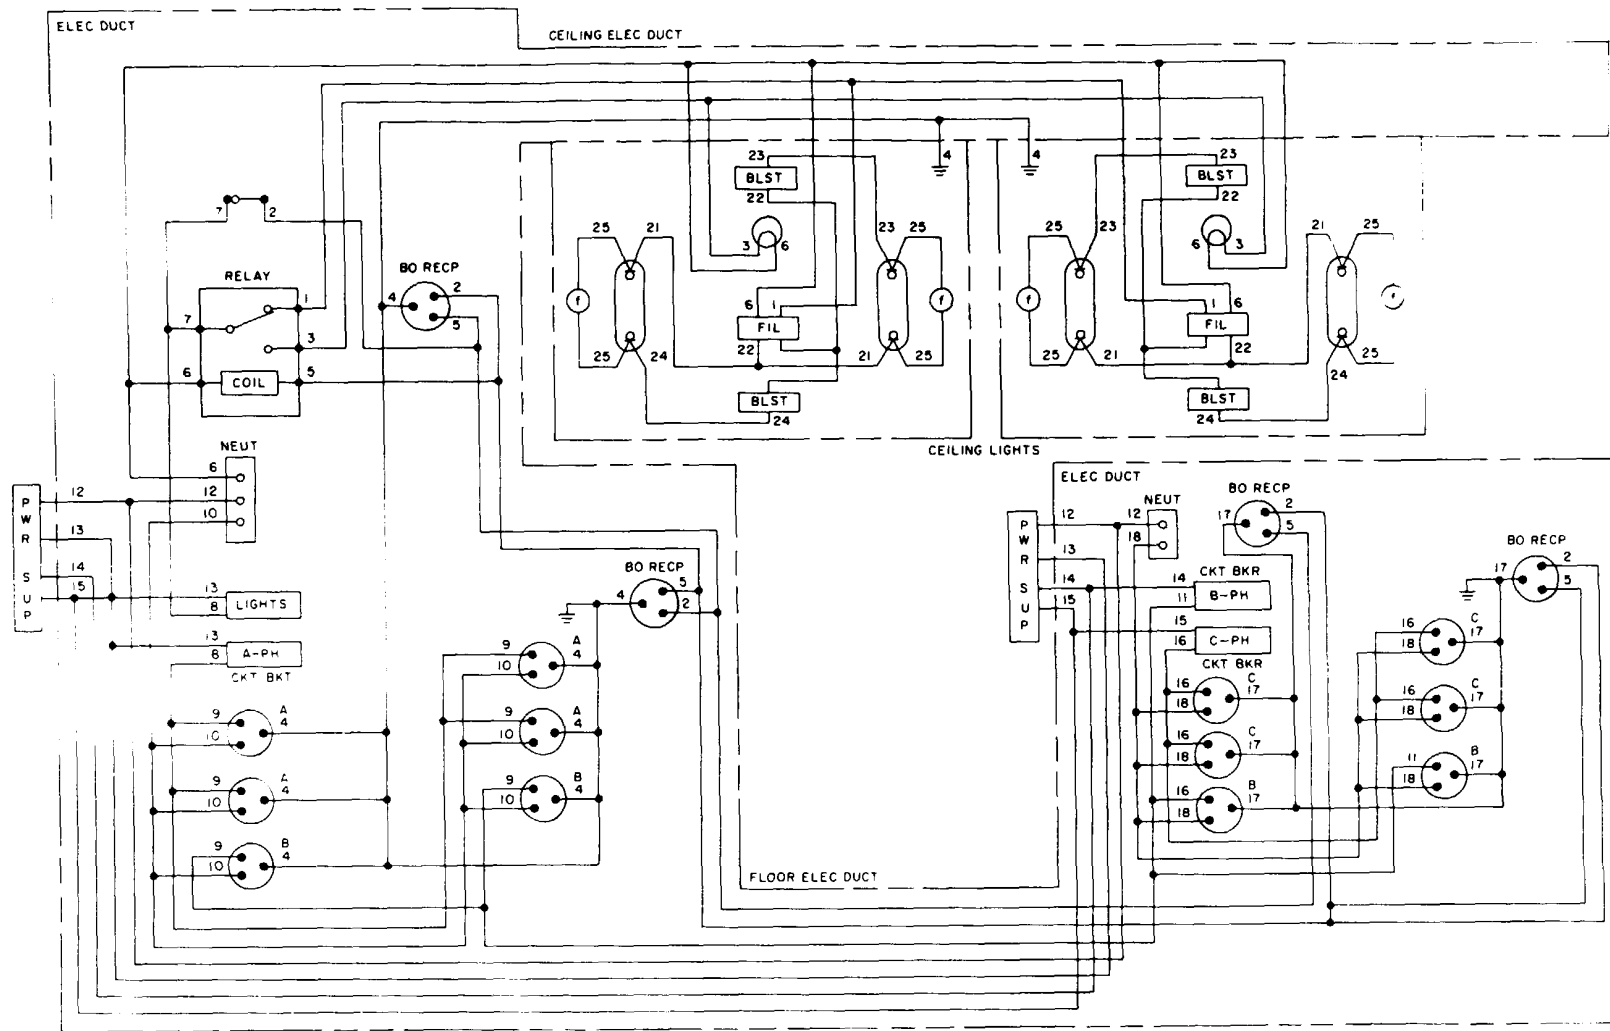

Figure 6-1. Modified Shelter Lighting Circuit, Schematic Wiring Diagram
*a. Ceiling Light Switches.* The two three-way light switches in a standard S-389 shelter are removed as part of the RPSF modification. The LIGHTS circuit breaker controls operation of the ceiling lights (figure 6-1).
*b. Blackout Lighting Circuits.* A plug-in actuator consisting of a micro-switch is installed in each door and is plugged into one of the four blackout (BO) receptacles (fig. 6-1) located at the top of the electrical ducts. The BO electrical circuits are controlled by a master ON/OFF BO circuit breaker switch. This switch must be in the ON
**7-2 SHELTER REPAIR.** Refer to TM 32-5410-217-14&P, Shelter, Electrical Equipment S-389/MSA-34 for detailed shelter maintenance. See figure 6-1 in this manual for modified shelter lighting circuitry.